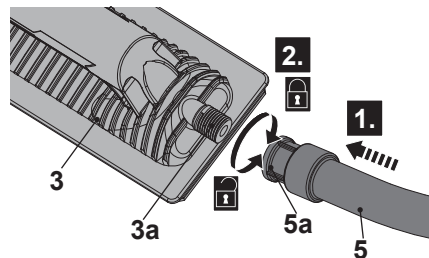

Fig. 4
4. Screw the other hose adaptor (5a) clockwise onto the thread of the hose connector (3a) of the steam plate (3). Ensure the connection is properly secured (Fig. 4).